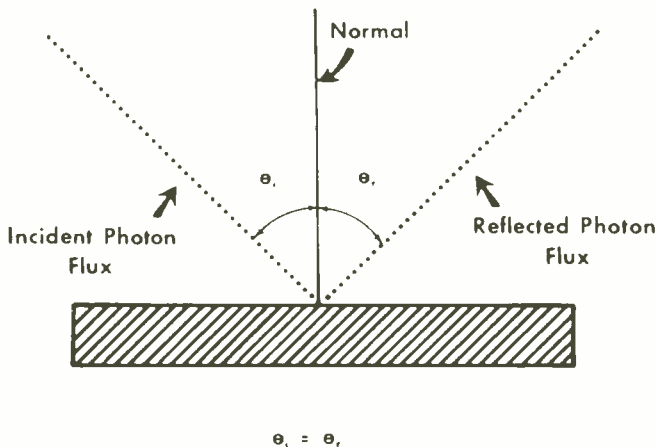

Fig. 1
Light and the manner in which it is reflected are of prime importance in geometrical optics. There are two types of reflection: (1) diffuse reflection, in which light striking a rough surface is randomly scattered in many directions, and (2) specular (i.e. mirror-like) reflection, in which the incident light is reflected from a smooth surface in accordance with the law of reflection (i.e., the angle of incidence equals the angle of reflection, as shown in Fig. 1). As discussed in most physics